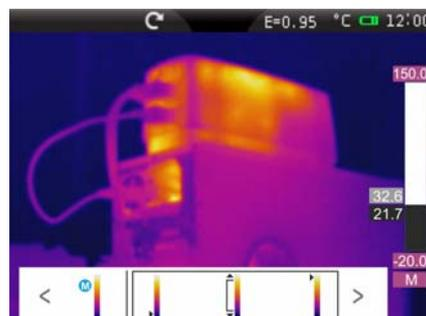

Fig. 58: Simultaneous adjusting of high and low level of temperature
6. Touch the icon “” for the simultaneous adjustment of both high and low level of temperature. Touch the symbols “<” and “>” to carry out the adjustment of the temperature value associated with the palette up to reach the effect (see Fig. 58)